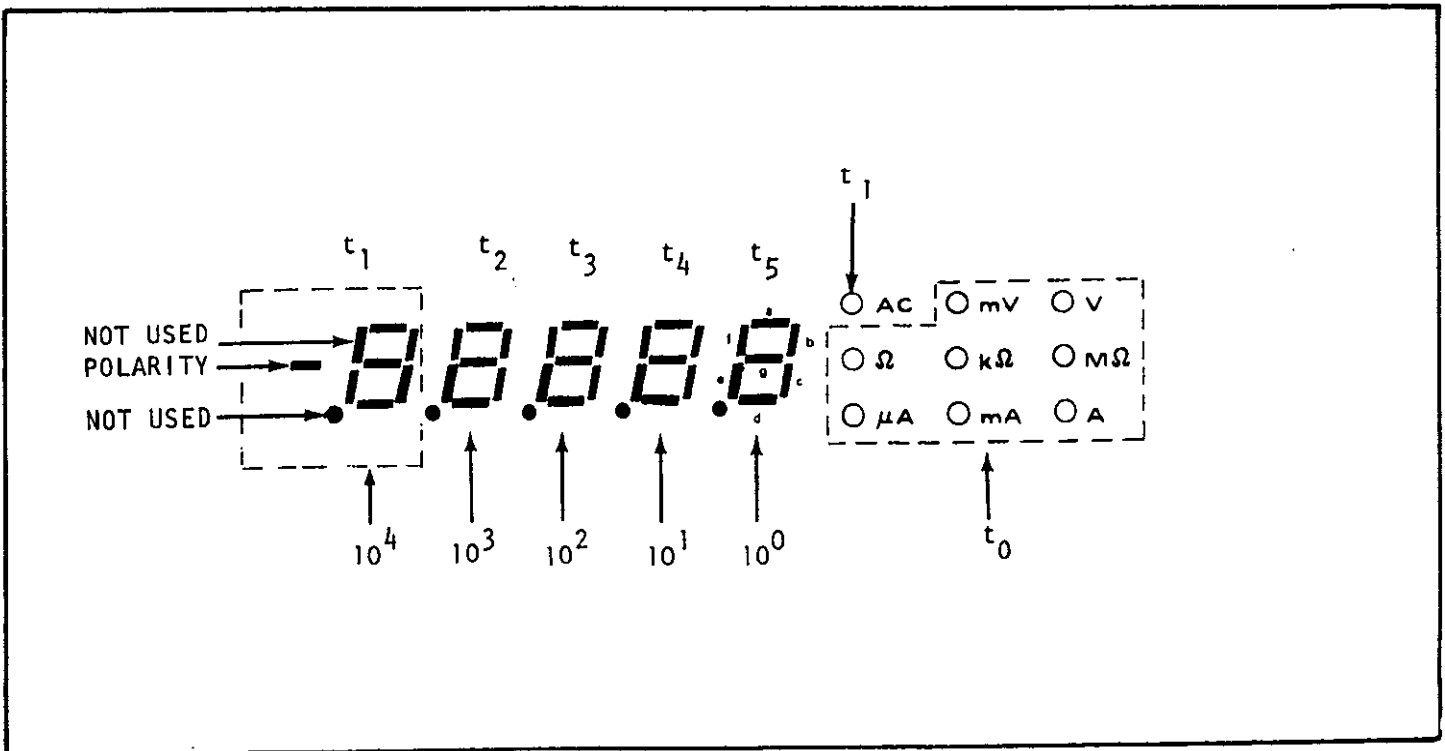

FIGURE 5-17. Digital Display Multiplex Scheme.
a. This schematic shows the display digits, the LED function indicators, all display drivers and multiplex timing generator. The entire display, including minus sign and function indicators, is fully multiplexed. This is accomplished with six time slots (timing mux). The mux times are generated by shift register U301 whose inputs come from the LSI circuit (U901, Schematic 29145E). These time slots are referred to as  $t_0$ ,  $t_1$ ,  $t_2$ ,  $t_3$ ,  $t_4$ ,  $t_5$ . The common anodes of each digit and the common anodes of the function indicators are driven from the appropriate mux line, see Figure 5-17. These mux times occur in the operating digital interfaces (see Section 5-8, 1722). The mux times occur in the sequence  $t_0$  thru  $t_5$ ,  $t_0$  and  $t_1$  are 383 microseconds each, and  $t_2$  thru  $t_5$  are 191 microseconds each. One complete mux cycle is 1.53 milliseconds.